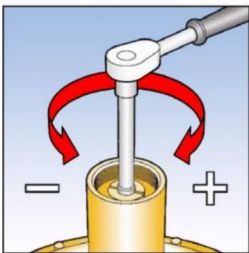

Fig. 4
3. For L.P. 65mm and 80mm unit insert 1/2" square socket extension piece into square hole, or flat blade screwdriver into slot in spring adjuster. See Fig. 4.